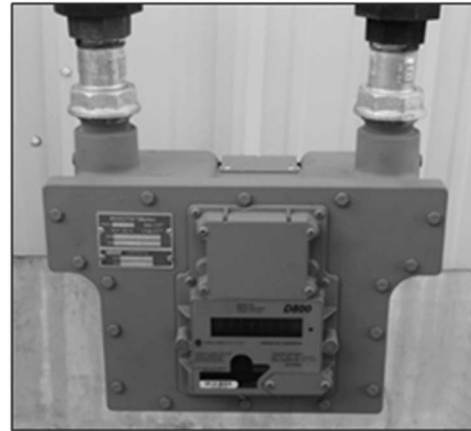

Figure 8: Meter placed in line
- Verify the meter index is parallel to the ground with both meter ferrules (spuds) pointing upward. Refer to Figure 8.